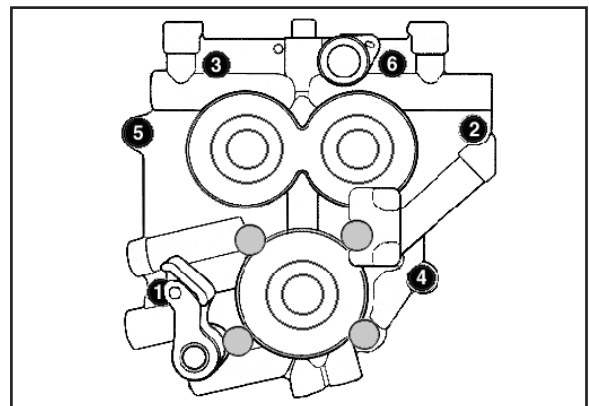

Figure 2
- L- Following sequence shown, alternately loosen and remove cam support plate bolts. **See Figure 2 below right.**
- H- Loosely install support plate screws with a drop of Loctite® threadlock 242 or 243 (blue). Alternately tighten screws to 95 in-lbs. torque following sequence shown. **See Figure 2 Page 5.**
**Support plate screws that pass through alignment dowels (See positions 1 & 2 in Figure 2) can be easily stripped when applying maximum 120 in-lbs. torque as recommended by Harley-Davidson®.**